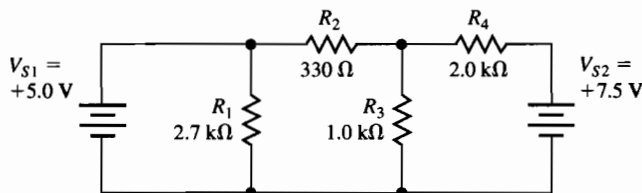

Figure C-6-3
13. The circuit shown in Figure C-6-3 contains two voltage sources. Find the current in R_2 due to both sources.